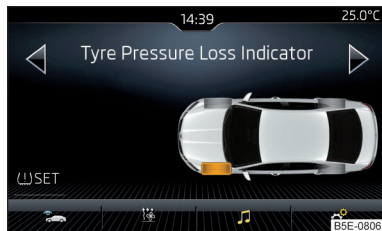

Fig. 286
- ▶ Tap on function surface **SET** » Fig. 286.
When the warning light (U) appears in the instrument cluster, the affected tyre can be displayed on the infotainment system » Fig. 286.